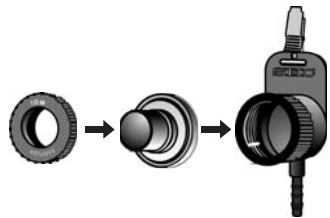

Figure 11. Insert loaded cassette in sampler body and screw on inlet plate.
1. Remove a newly loaded cassette from its transport clip and remove the cassette cover. Ensure the O-rings are fitted correctly inside the sampler housing body. Insert the cassette into a clean IOM housing body. Screw the inlet plate into the housing body. Tighten to achieve a good seal (Figure 11).